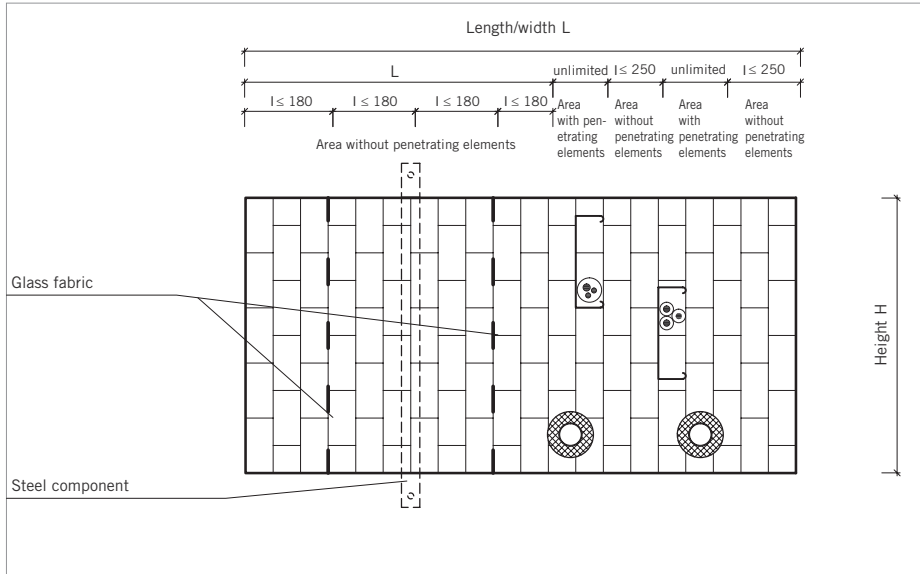

Fig. 4: (Seal thickness 144 mm)
- / Areas of the through penetration firestop system in floors without penetrating elements with a length greater than 180 mm/250 mm (seal thickness 144 mm) or 250 mm/500 mm (seal thickness 200 mm) must be supported with steel components underneath the cable penetration seal (minimum dimensions 40 mm x 2 mm) every 180 mm (seal thickness 144 mm) 250 mm or 500 mm (seal thickness 200 mm), see Fig. 4 and 5. For penetration seals with a seal thickness of 144 mm instead of a steel component a glass fabric can be inserted in the horizontal joints (see Fig. 4)